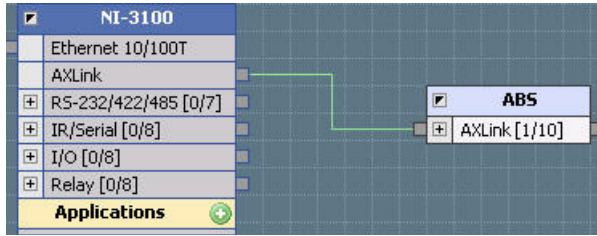

FIG. 118 Connection Established between Device Elements
- As you drag the cursor, a connection line is drawn on the System Diagram, indicating the connection. Until a connection is established, the line is yellow (as shown above). When you release the mouse button on a valid connection, the line color changes to indicate the connection type (for example green, as shown in FIG. 118):